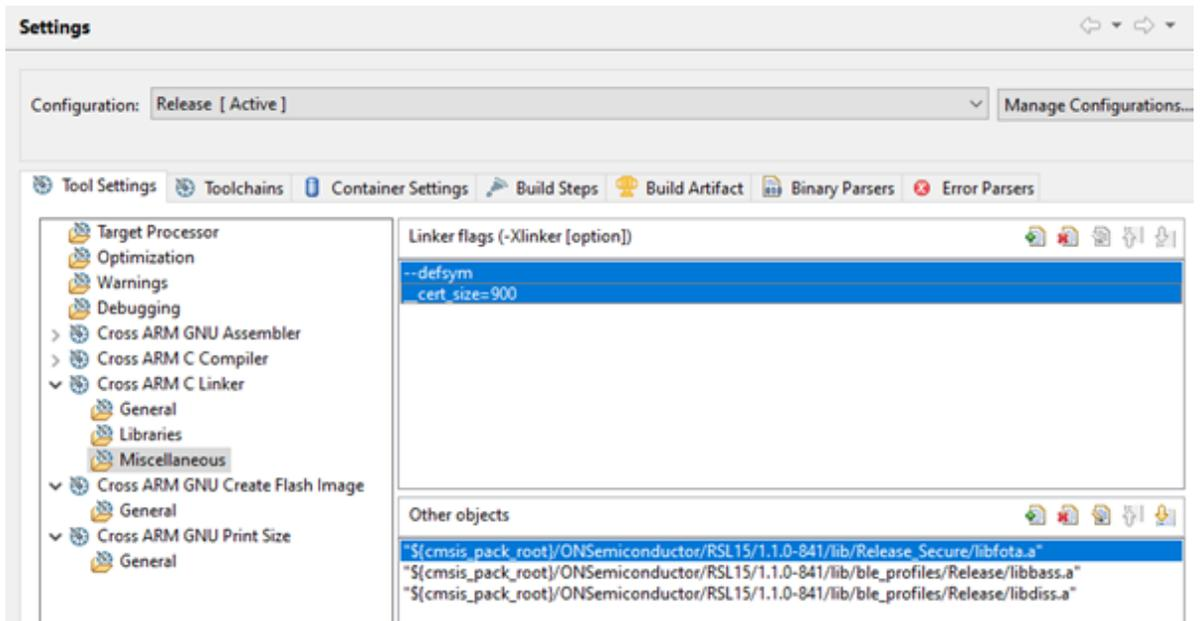

Figure 21. Updating Secure Configuration
- b. Change the path of *libfota.a* to use the Secure FOTA library `$(cmsis_pack_root)/ONSemiconductor/<device>/<version>/lib/Release_Secure/libfota.a` (see the "Updating Secure Configuration" figure (Figure 21)).